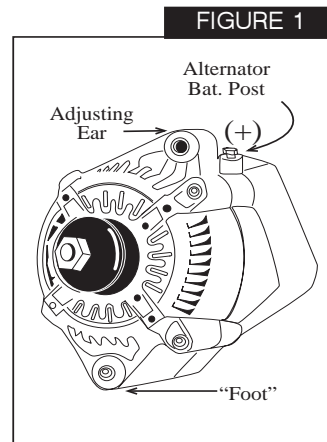

FIGURE 1
2. This racing alternator has a black thermal coating which has insulating properties electrically. Care should be taken to insure a good ground at the "foot" of the alternator and "adjusting ear" to the engine block. (See Figure 1).